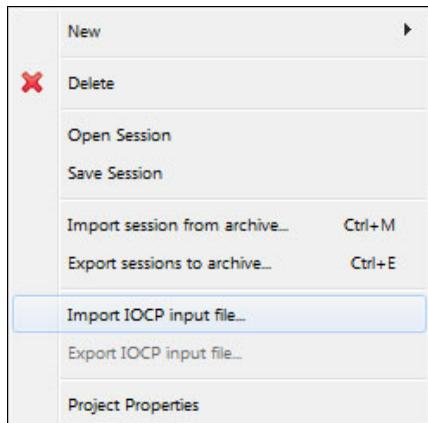

Figure 4-12 Importing the IOCP file
1. Right-click anywhere in the Projects window and select **Import IOCP input file** (Figure 4-12).